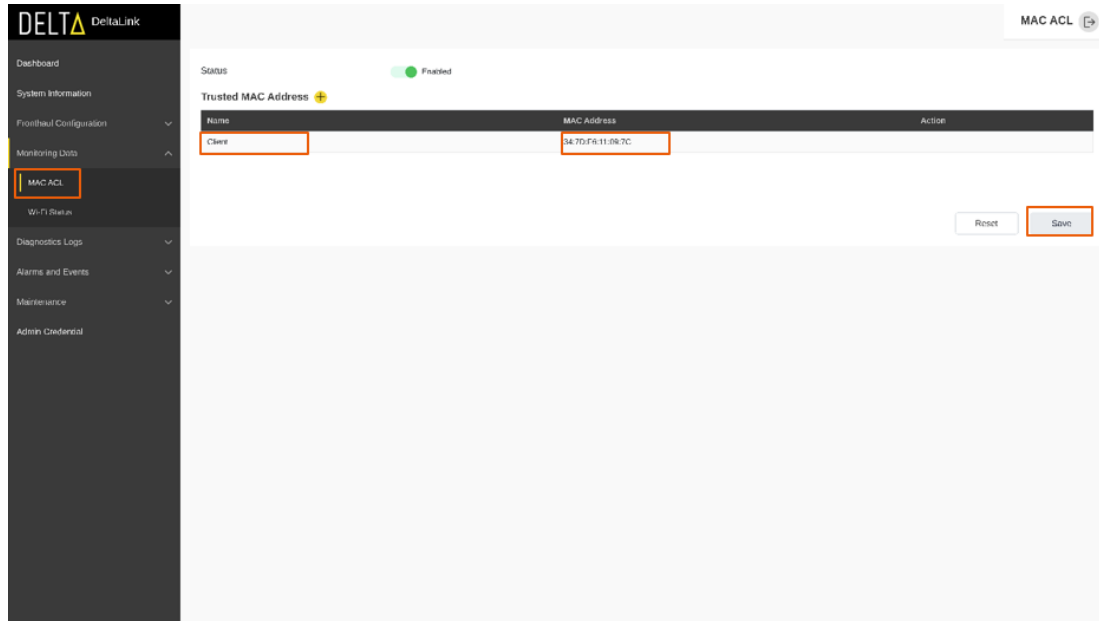

Figure 43 MAC ACL - 4
- e) After saving the “MAC Address”, it will be listed in the “Trusted MAC Address” list as shown in below Figure 43.